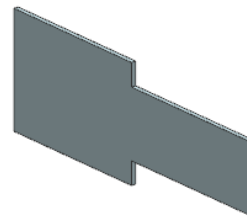

Figure 14-130 Base of the part
4. Exit the sketching environment and specify the thickness of the sheet metal part in the backward direction. Exit the **Tab** tool to create the base of the sheet metal part, as shown in Figure 14-130.